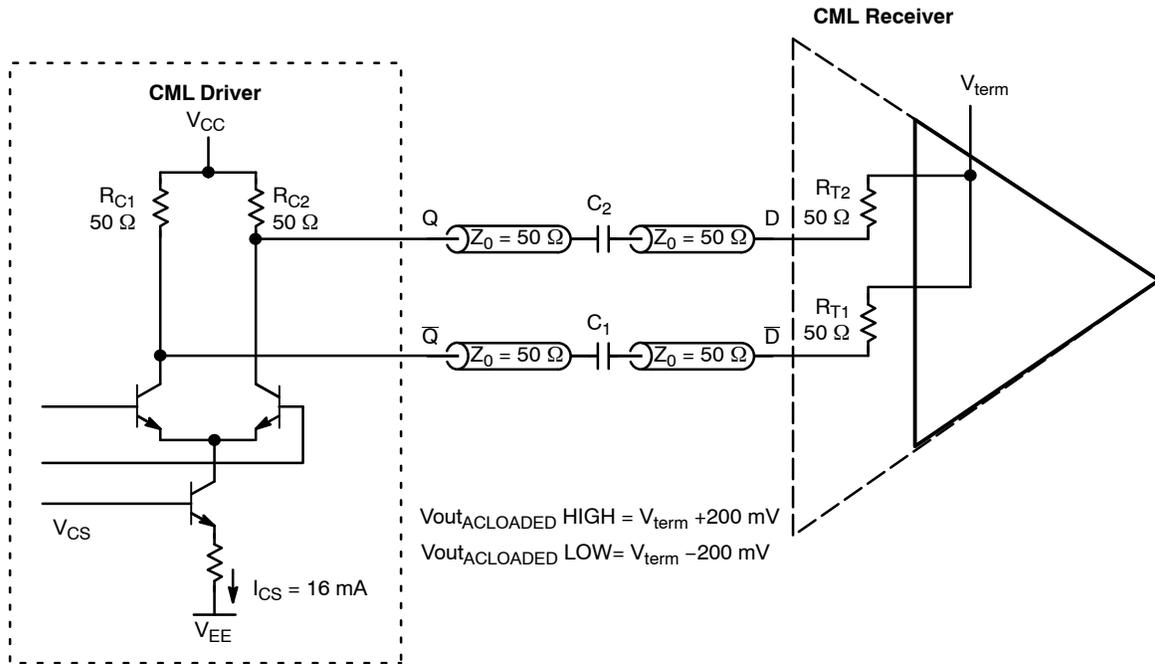

Figure 7. CML Output with Cap Coupling (AC) and Load Termination of 50 Ω to V_{term}
A driver and receiver using a cap, C_x, coupled (AC) differential interconnect and receiver side 50 Ω termination (R_T) requires a DC receiver side rebiasing, V_{term}, to the signal lines as shown in Figure 7. The coupling cap, C_x, value and the load impedance constitute an RC network affecting the signal edges. Cap coupling (AC) restricts low frequency response and may require coding to maintain a sufficient crossing density.
This AC coupled pair in Figure 7 will produce characteristic signal levels per Table 3.
The V_{term} DC bias supply associated with the CML receiver in Figure 7 needs to accommodate the receiver common mode range and bypassed to enhance rejection of common mode noise. Typically, the V_{term} bias supply may be connected directly from the receiver R_T pins whether internal or external to the driver. When internal, the pin connect to the fixed value 50 Ω (R_T) resistors may be singulated or combined. If external, the termination resistor (R_T) value may be changed to accommodate the specific transmission line impedance.